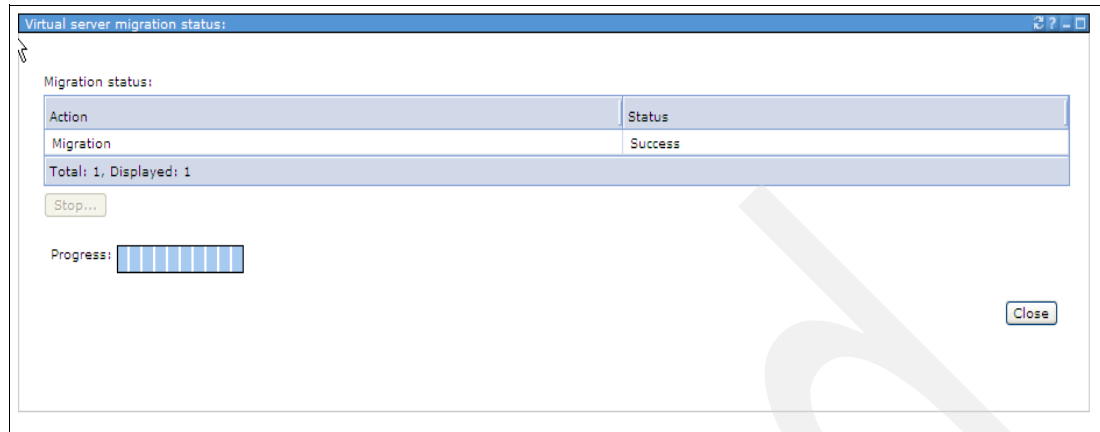

Figure 6-50 Successful LPM operation
11. After the migration completes, a window similar to Figure 6-50 opens.